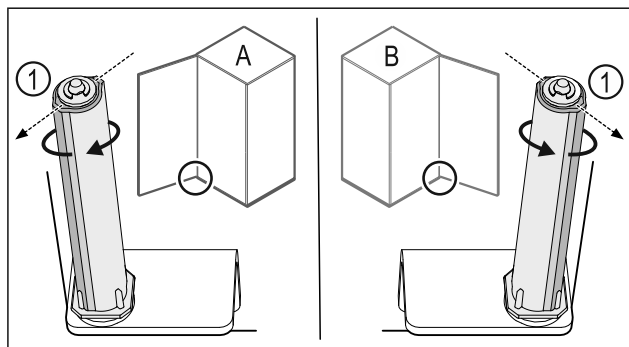

Fig. 49 Left stop (A) / right stop (B)
- Turn the locking system against the resistance until the bar on the locking system Fig. 49 (1) is pointing outwards.